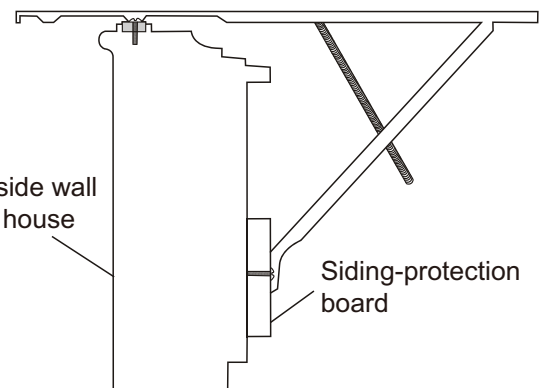

FIG.10
- 8** Securely attach a siding-protection board to side of house (FIG.10). NOTE: Siding-protection board should be long enough to span 2 wall studs.